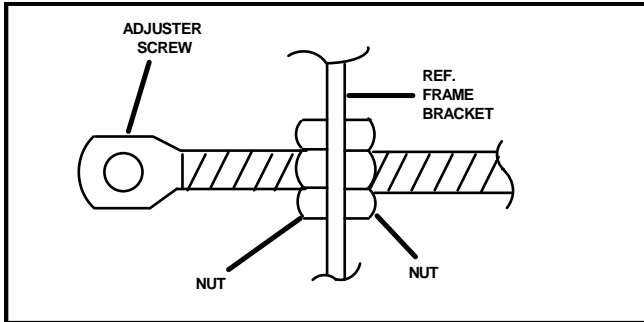
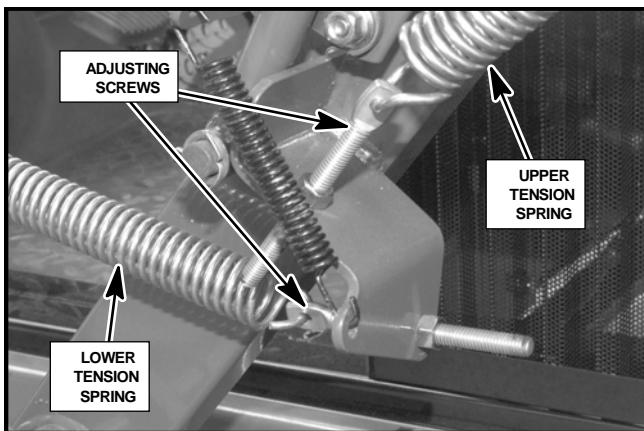
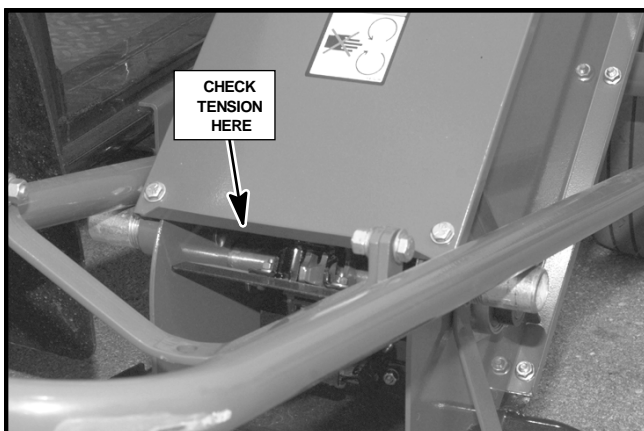

Figure 45
Figure 46
Figure 47
18. Adjust the lower tension spring (See Fig. 46) by adjusting spring adjuster screw so an equal amount is on each side of the frame bracket as shown. Lock in place with nuts (See Fig. 45).
19. Next adjust the upper spring adjuster screw (See Fig. 46) until 30 to 40 pounds is required to lift the lower end of elevator with a spring scale (See Fig. 47).